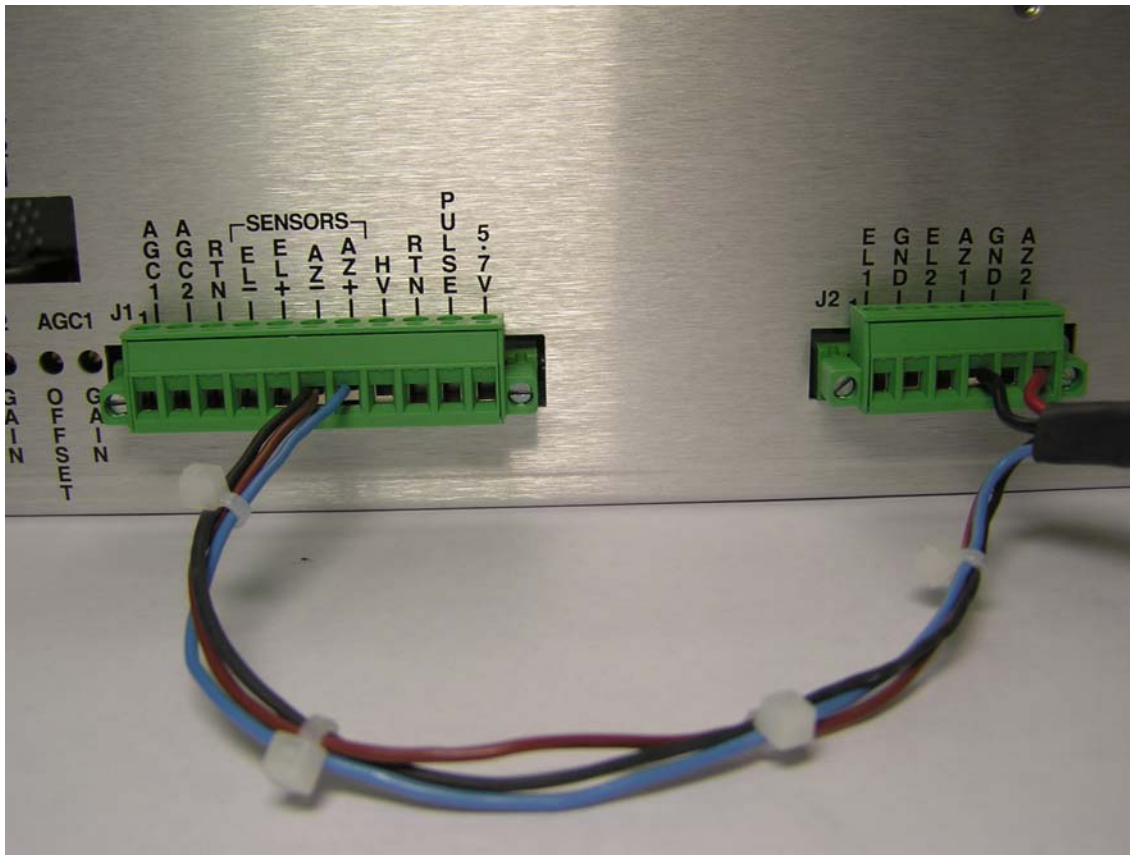

Figure 8 – Connection at RC1500 Back Panel / Strain Relief
The apparent motion of an inclined orbit satellite appears as a narrow figure 8 pattern aligned perpendicular to the geo-stationary satellite arc. As the inclination of the satellite increases both the height and the width of the figure 8 pattern increase. The single axis tracker can follow the long dimension of the figure 8 but cannot compensate for the width of the figure 8 pattern.
10. Place cable ties for added strain relief as shown in Figure 8.
Figure 8 shows the proper inches of cable to protect against cable stress. The larger 16-gauge cables are cut 5 ½ shorter to take any type of stress caused by the controller being moved or the cables stretched. The sensor AZ- should have the brown and drain wires connected to it. The drain wire appears black in this picture due to the heat shrink on it which protects against short circuiting.